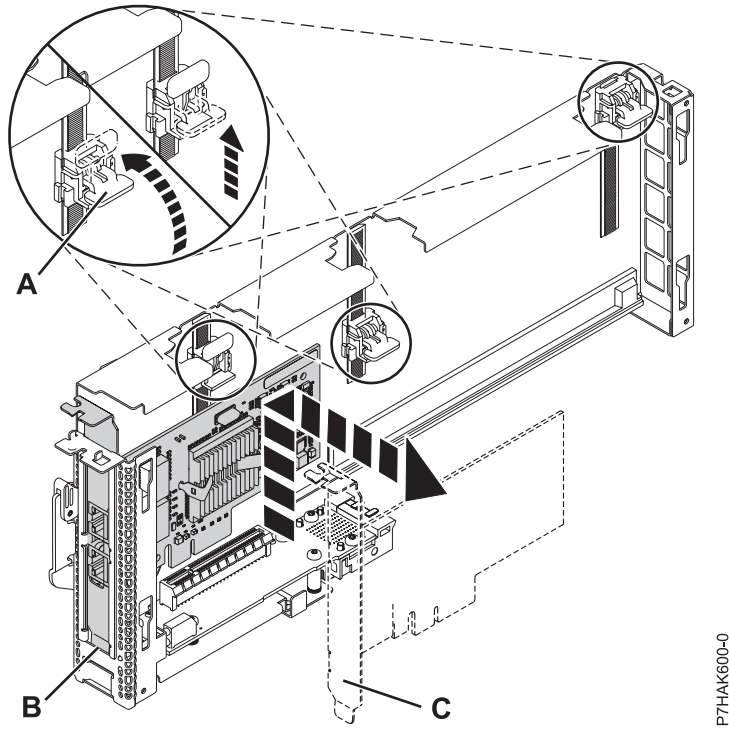

Figure 27. Adapter removed from the PCI adapter cassette
- a. Unlock the adapter retainers by rotating the retainer clips (A) into the horizontal position. See Figure 27 on page 36.